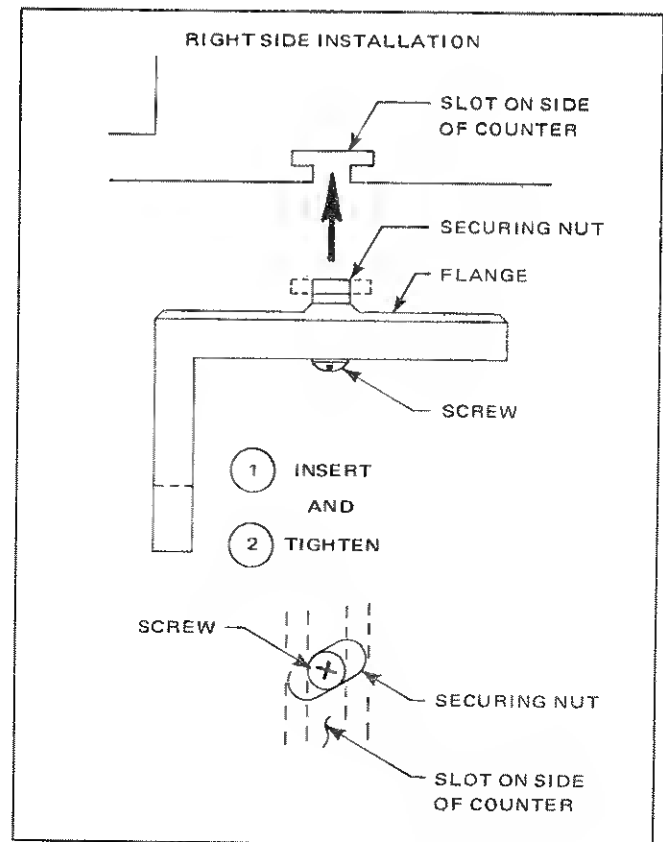

Figure 2.1 - Rack Mount Installation
- b. Place one of the supplied screws through each of the two holes in the mounting flange (figure 2.1). Thread a securing nut onto each screw just enough to attach it to the screw (approximately one turn).